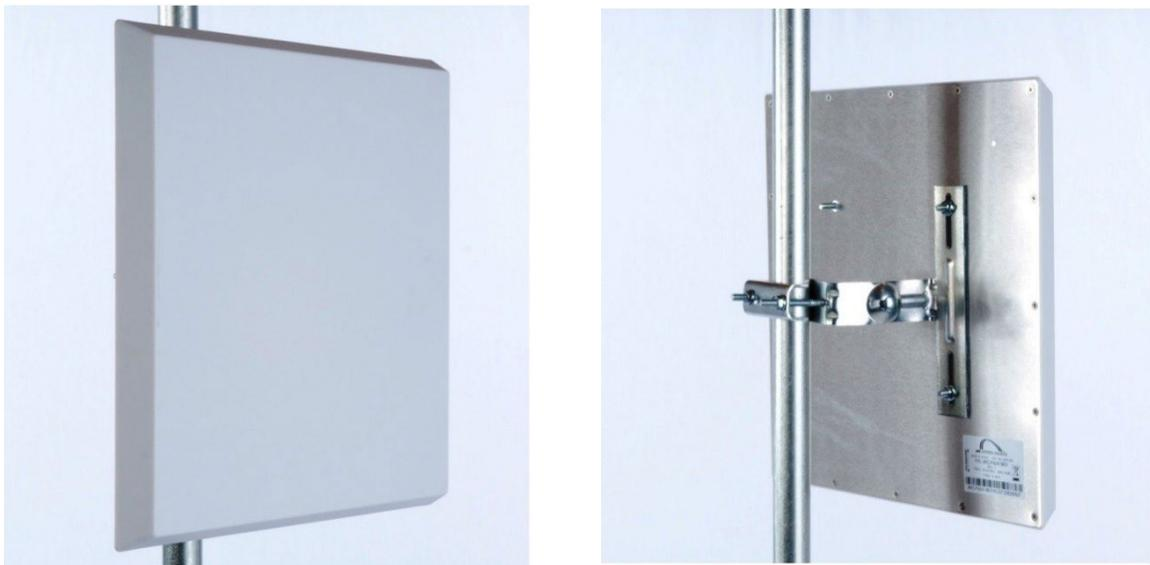

Figure 3. 941B0839A Bracket, Standalone and With RF Pouch
10. Remove the two large 3/8-16 screws from the left side of the AMU Backplate Assembly and, using the two screws, attach the beacon radio support bracket (see Figure 3) through the two attach holes.